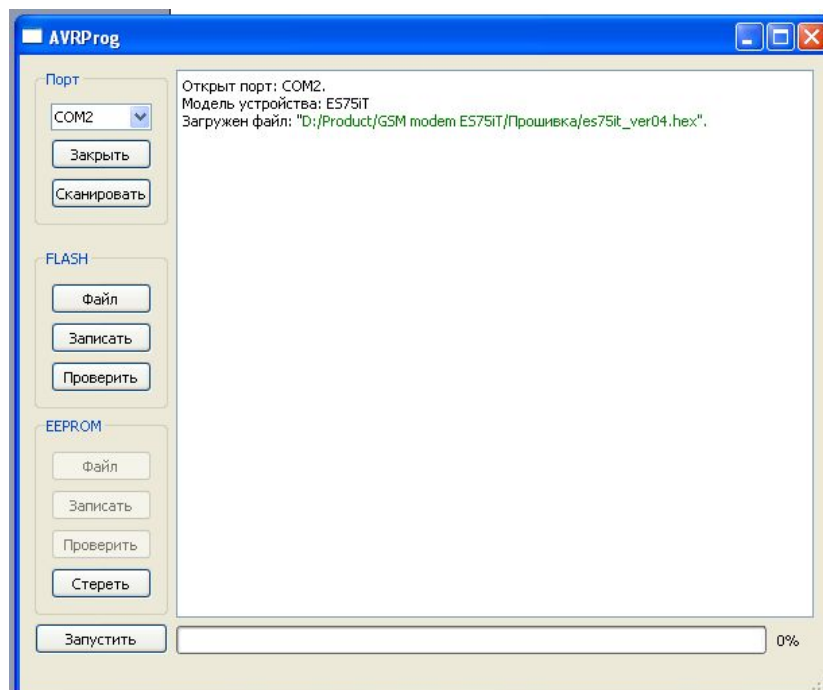

Fig.5
5. Select the new weaving file. Click “Open”. Upon successful loading of the file, the program window is to display the same as on Fig. 5.